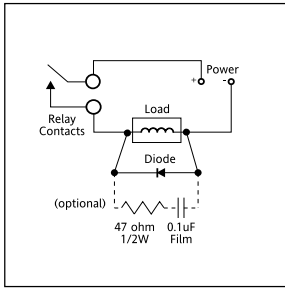

Figure 2: DC Inductive Loads
When switching inductive loads, maximum relay life and transient EMI suppression is achieved using external protection (see Figures 2 & 3). Place all protection devices directly across the load and minimize all lead lengths. For AC inductive loads, place a properly-rated MOV across the load in parallel with a series RC snubber. Use a 0.01 to 0.1mF pulse film capacitor (foil polypropylene recommended) of sufficient voltage, and a 47ohm, 1/2W carbon resistor. For DC inductive loads, place a diode across the load (PRV > DC supply, 1N4006 recommended) with (+) to cathode and (-) to anode (the RC snubber is an optional enhancement).
*Note: External relay contact protection is required for use with inductive loads. See relay protection section (Fig 2 & 3).*